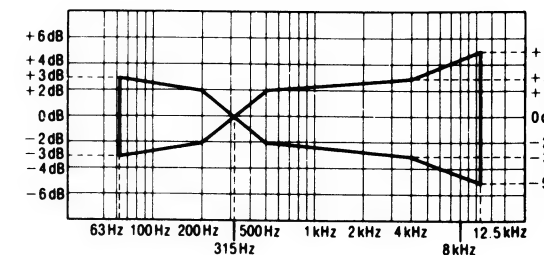

Fig. 10
2. Assume that the frequency response is within the range shown in Fig. 10 for both L-CH and R-CH.